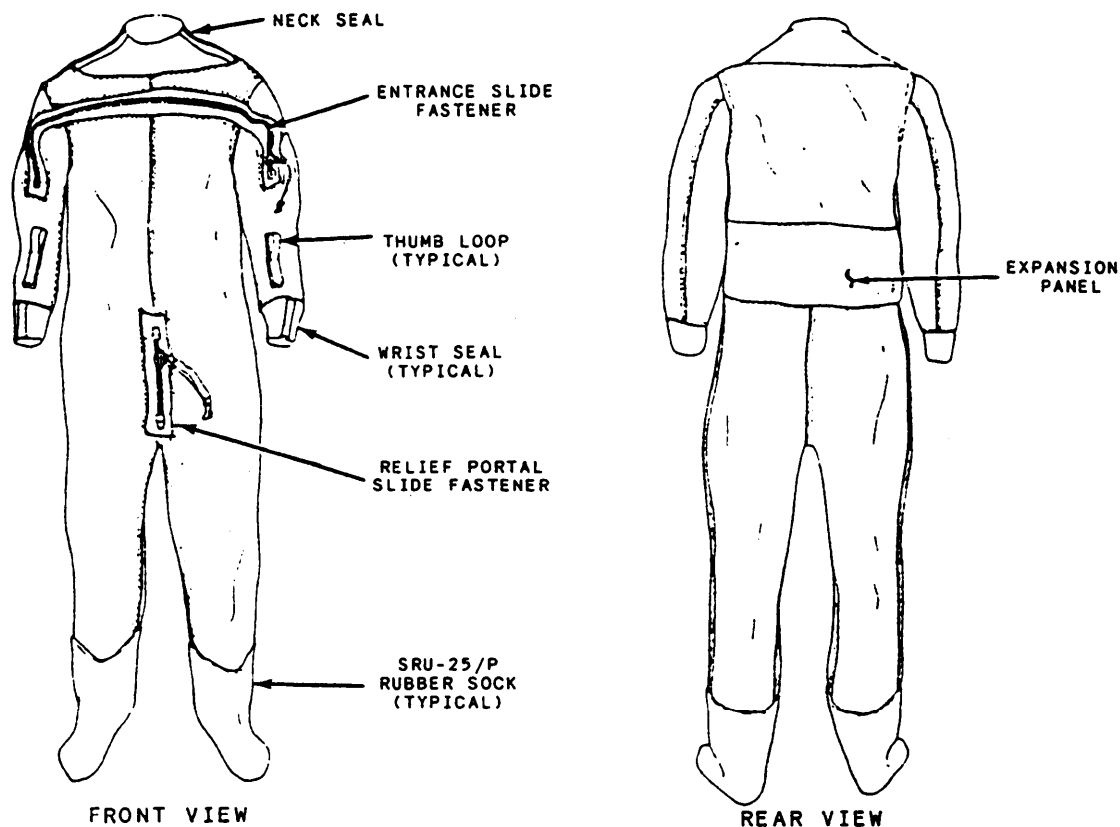

Figure 4-8.—CWU-62/P antiexposure coverall.
**CWU-62/P ANTIEXPOSURE COVERALL.**— The CWU-62/P antiexposure coverall (fig. 4-8) is a one-piece garment and is supplied in 12 sizes. The coverall should not be worn in direct contact with the skin. It is a lightweight coverall that prevents water from entering, but permits bodily produced moisture vapor to pass out, thus minimizing heat and moisture buildup. Proper maintenance is essential to the life and safety of this coverall, as well as proper sizing and fitting. The neck seal and wrist seals are